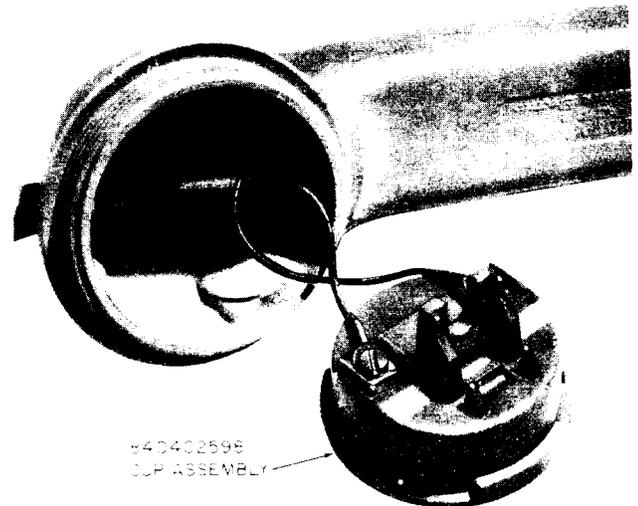

Fig. 2—Nonmodular G Series Handset Cup Assembly
2.02 Nonmodular G-series handsets are equipped with transmitter cups having the cord retainer molded on the cup (Fig. 2).